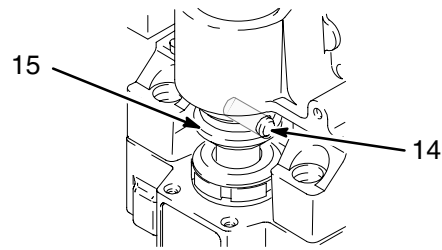

Fig. 10 7840A
1. Try to stop pump with piston rod (222) in lowest position. To lower piston rod manually, remove shroud (32) and rotate motor fan blades. Use a screwdriver to push retaining spring (15) up and push out pin (14). See Fig. 10.
3. Remove motor shield (32).